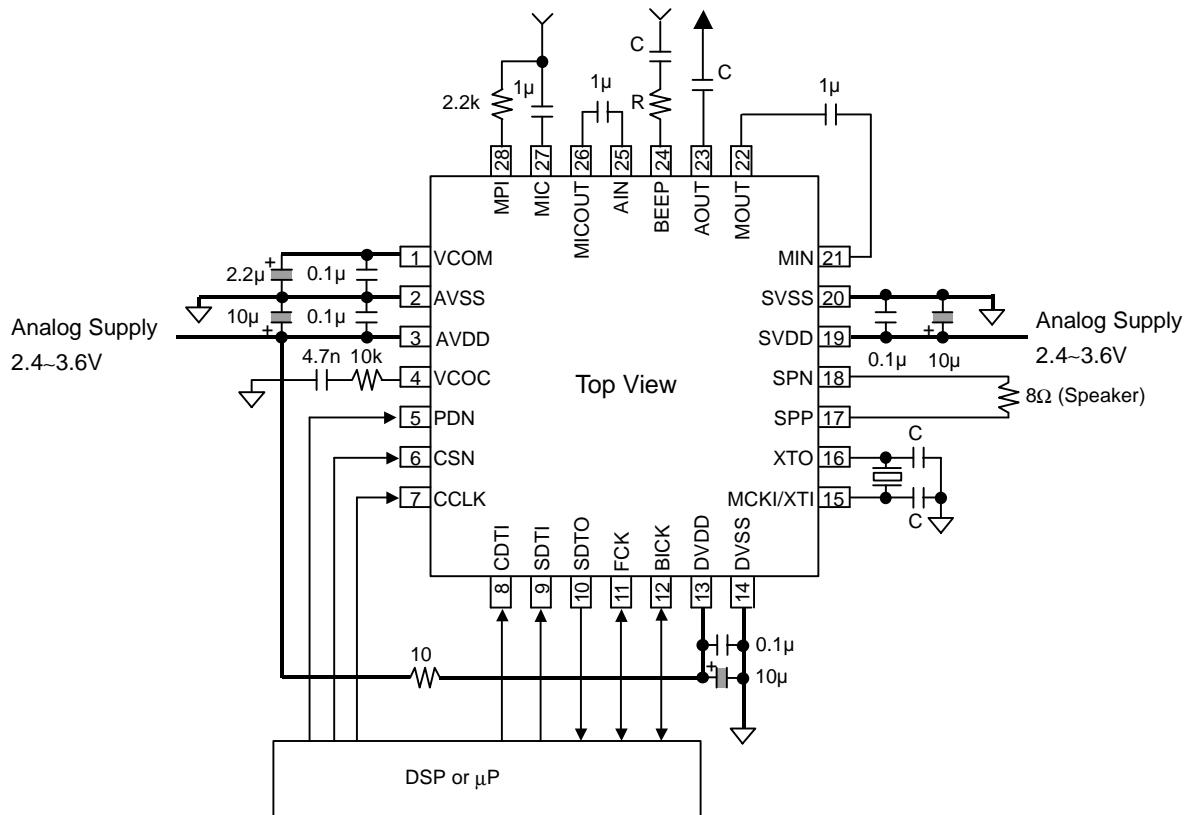

Figure 33. Typical Connection Diagram
Figure 33 shows the system connection diagram. An evaluation board [AKD4536] is available which demonstrates the optimum layout, power supply arrangements and measurement results.
- Value of R and C in Figure 33 should depend on system.